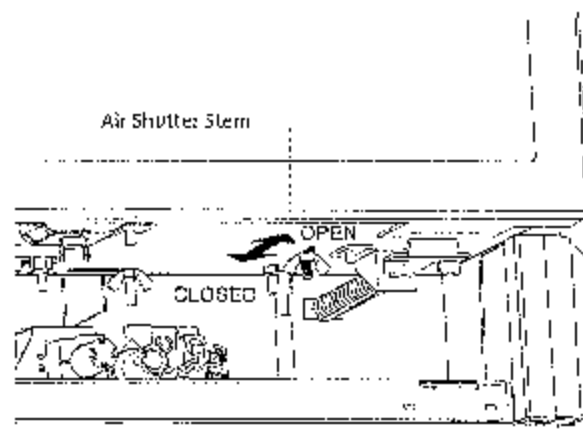

Figure 27. Air Shutter Adjustment.
THE G1425 GAS FIREPLACE IS SHIPPED FROM THE FACTORY EQUIPPED TO USE NATURAL GAS. IF THE BURNER HAS BEEN CONVERTED FOR USE WITH PROPANE, IT WILL BE NECESSARY TO ADJUST THE AIR SHUTTER ON THE BURNER TUBE TO ACHIEVE THE PROPER GAS TO AIR MIX. See fig. 27.
1. Open the lower Grill panel and locate the Air Shutter adjustment stem extending down from the firebox floor. See fig. 27.